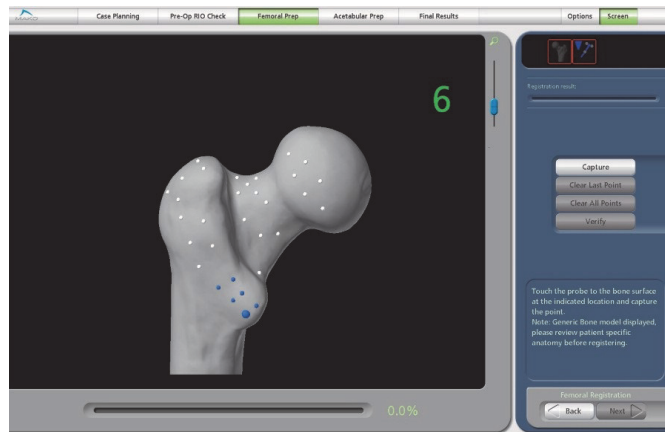
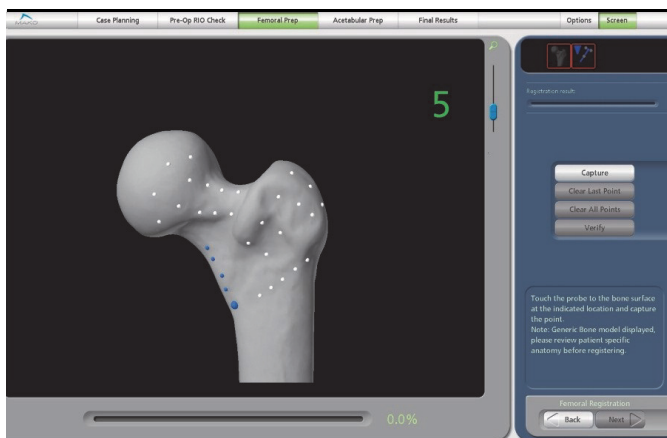
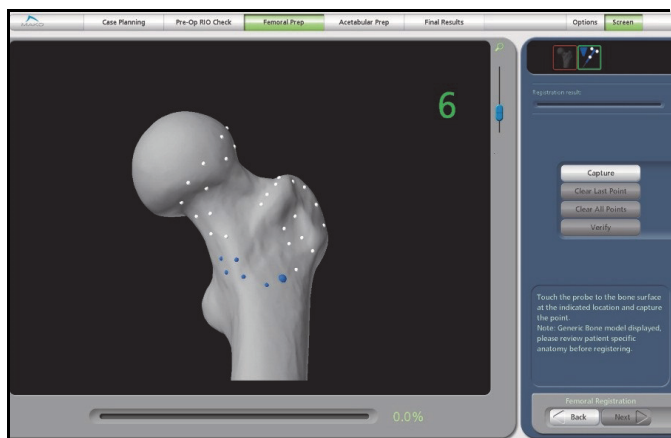

Figure 12. Femoral Registration Pattern for the Posterolateral approach
Figure 13. Femoral Registration Pattern for the Anterolateral approach
Figure 14. Femoral Registration Pattern for the Direct Anterior approach
2. **Fine Registration:** Using the Probe, touch the surface of the bone in the required areas of the proximal femur identified in the software (Figure 12, Figure 13, and Figure 14).